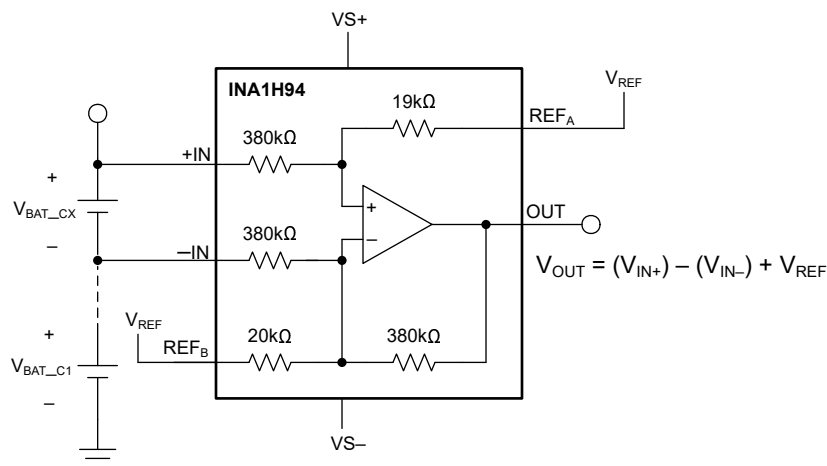

Figure 1-1. INA1H94 Simplified Application
The INA1H94-SP is offered in HKX-8 package and available in QML Class V (QMLV) or engineering sample (EM) version. Figure 1-1 shows a simplified block diagram. More device information can be found in the INA1H94-SP Radiation-Hardened, High Common-Mode Voltage Difference Amplifier data sheet.